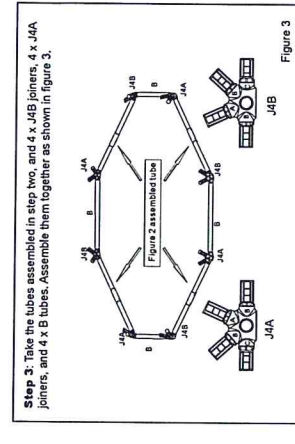

Figure 3
3. Press the tool firmly until the spring bead is released from the tube as shown in figure 3.